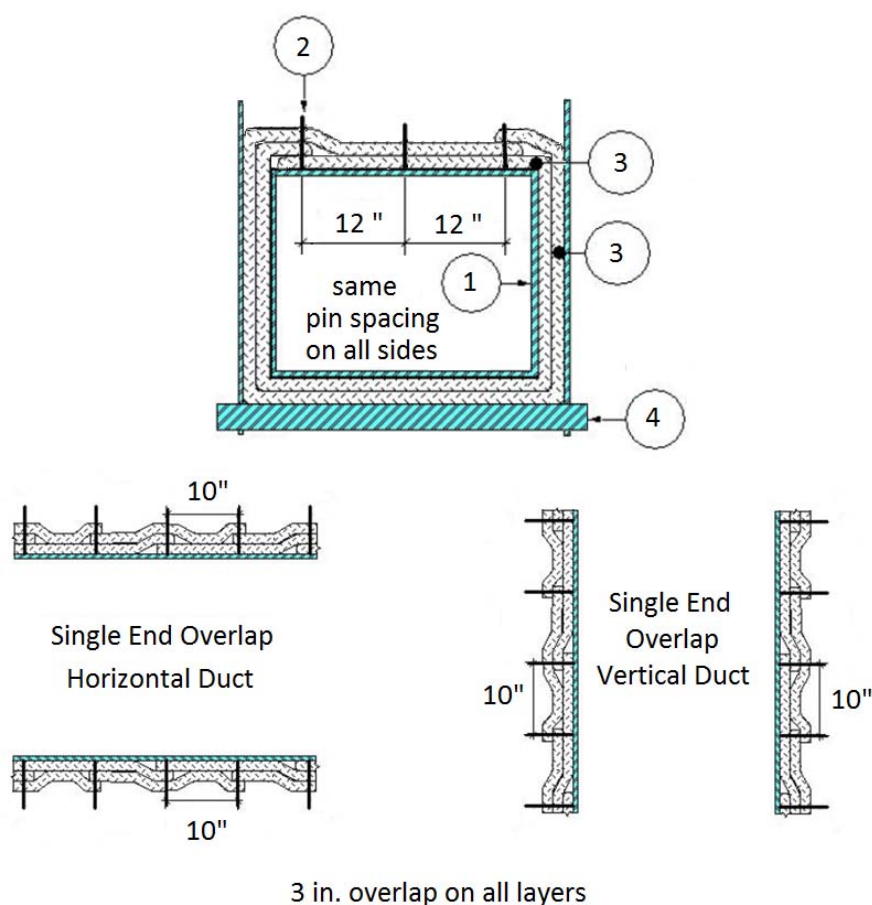

Figure 1. Cross-Sections, Condition C and Condition D
2. PINS: Refer to Figure 1. Use min. 12 GA steel impaling pins to secure the duct insulation (Item 3). Select pin length as required to penetrate all layers of duct insulation (Item 3) and penetration firestop insulation collars (Item 7C) by a min. of 1 in. without compression. Weld the pins to the ventilation air duct (Item 1). Space pins longitudinally at max. 10 in. on center (oc) and centered on duct insulation (Item 3) overlaps or collars. Locate pins transversely max. 12 in. oc on all sides of the ventilation air duct (Item 1) with a row of pins centered on the duct insulation (Item 3) overlap. Secure insulation on pins with 2-1/2 × 2-1/2 in. × 12 GA, galvanized steel clip washers.